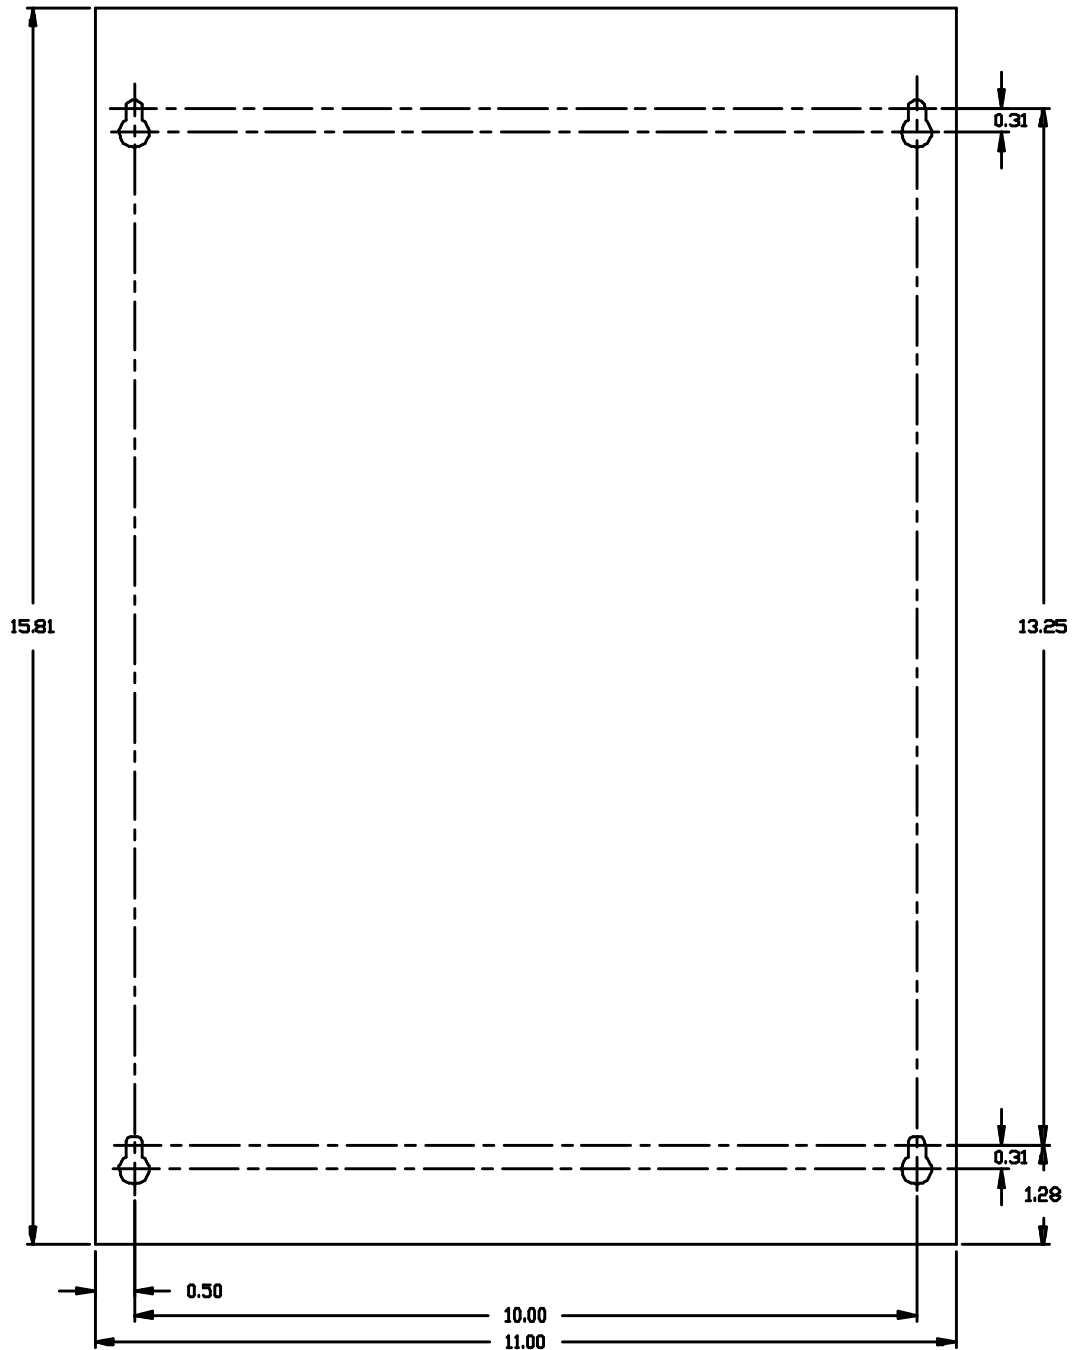

Figure 2.1 - Mounting Dimensions
The controller mounts flat against a wall or panel using four mounting key-hole slots in the back of the unit (refer to **Figure 2.1**).
1. Select the desired position for the controller and lay out the locations for the (4) mounting bolts as shown in **Figure 2.1**.
2. If panel mounted, provide clearance holes or tapped holes for (4) #10 machine screws for mounting the controller. If wall mounted, provide the necessary anchors for (4) #10 mounting screws.
3. Locate the controller in position and attach to the wall or panel using (4) #10 screws.